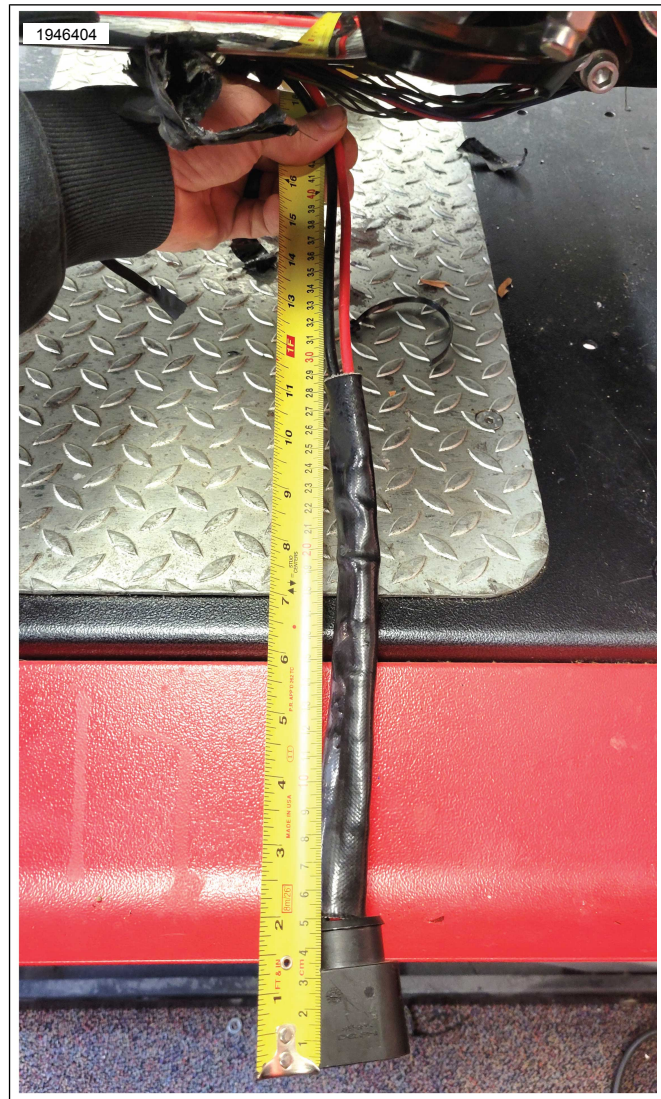

Figure 6. Separated Wire Harness
- a. See Figure 6. Exposing approximately 18" (457mm).